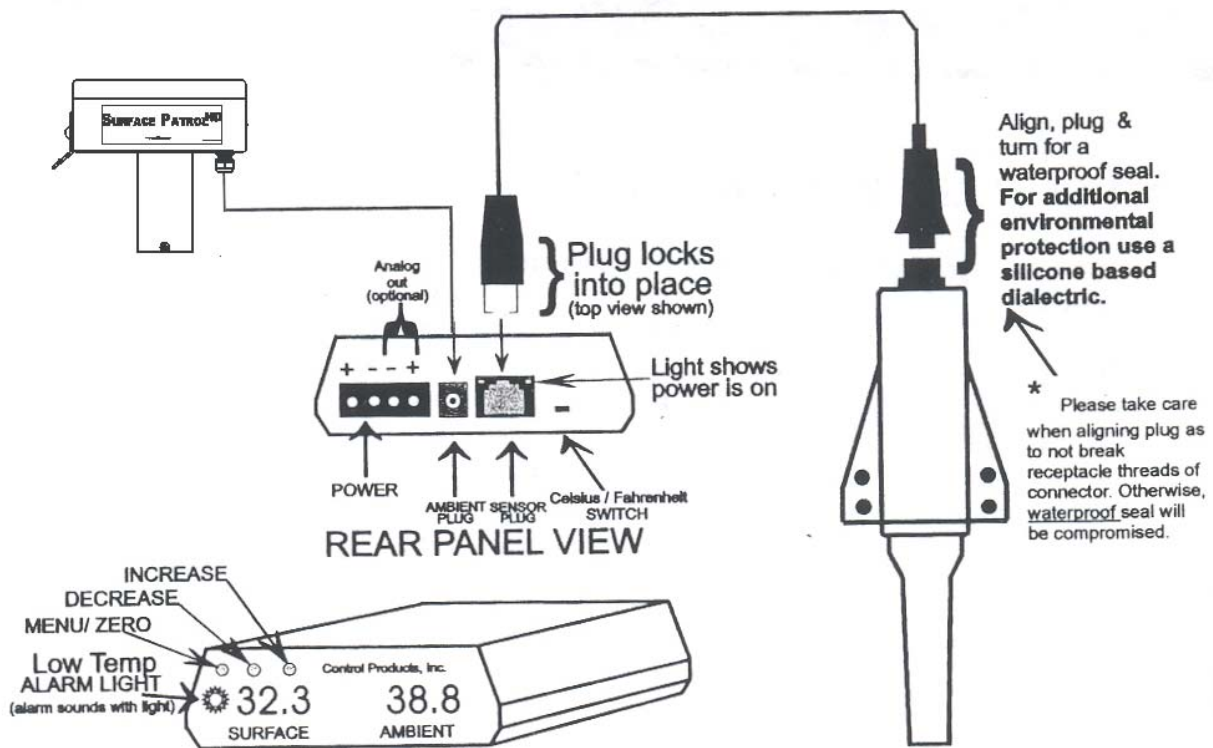

Figure 4 – Basic System Schematic
There are three momentary contact pushbuttons located on the front of the digital display and shown in Figure 4. These pushbuttons are recessed and are accessed through small holes in the display lens. Pressing any pushbutton will briefly sound the meters beeper to confirm the operation. These buttons are designated, from left to right, as **MENU / ZERO**, **DECREASE** and **INCREASE**.
- If sensor still does not output any data make sure that the wiring harness (refer to Figure 4) is plugged into connector on probe.